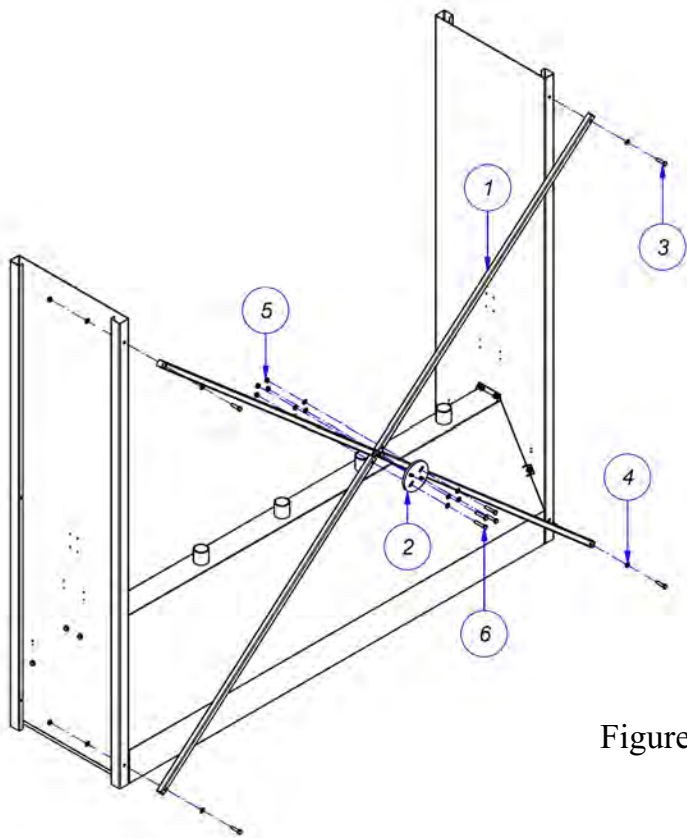

Figure 2
Step 2: Connect support bars at the corner to the side panels (Figure 2).